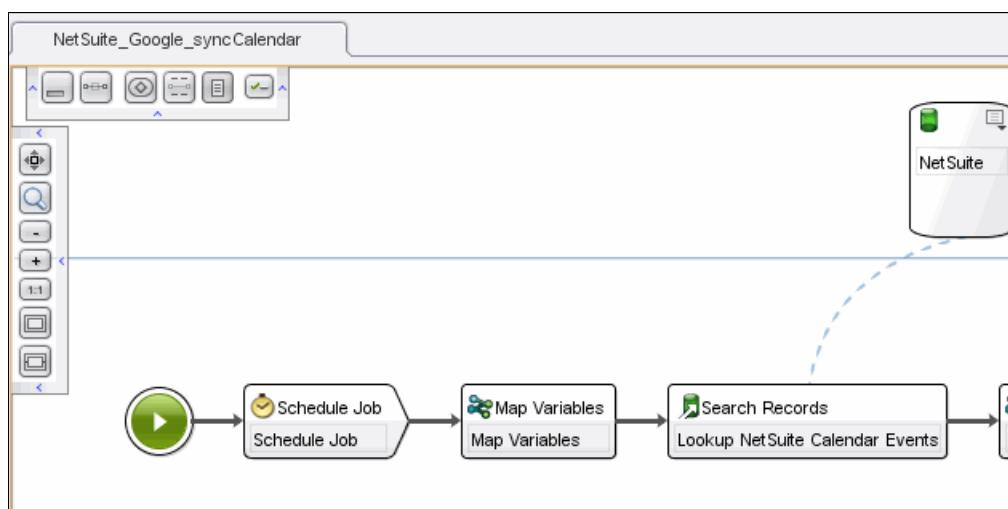

Figure 11-17 *NetSuite_Google_syncCalendar* orchestration open in the Studio workspace
1. The project has multiple orchestrations. Ensure that you have the primary orchestration, **NetSuite_Google_syncCalendar**, open in the workspace, as shown in Figure 11-17. If the primary orchestration is not open, go to the Project tab on the right, and then under Orchestrations, double-click the **NetSuite_Google_syncCalendar** orchestration to open the orchestration to a tab on the workspace.